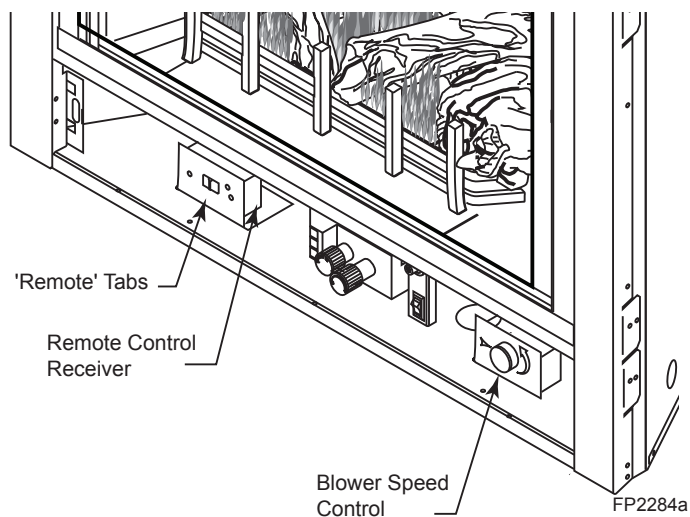

Figure 44 -
1. Using a flat head screw driver, bend the "remote" tabs up from the bottom of the fireplace. *Figure 44*
4. Use the screws that came with the remote control to mount the remote receiver cover to the bent up "remote" tabs. *Figure 44*